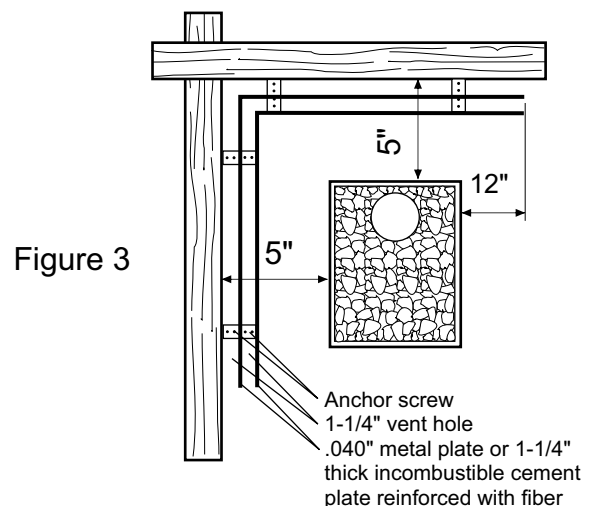

Figure 3
3. The safety distance mentioned on item 1 can be further decreased to minimum 5" provided a double protection is used. The double protection can be constructed using two plates described in item 2, in addition to which an at least 1-1/4" vent hole must be left between the wall and the plates. (Figure 3)